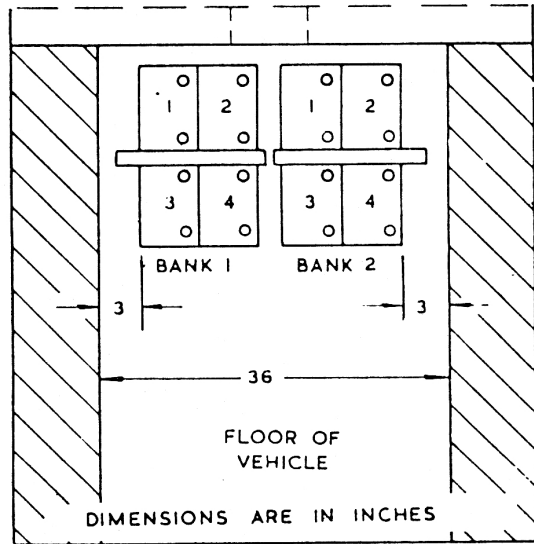

FIG. 1 - BATTERY LAYOUT
- c. Position new carriers (item 2) on baseboards, with the wing nuts towards the sides of the vehicle. Ensure that a space of 1 inch is left between carriers (fig 1).
- e. Secure carriers using item 3.
- f. Position batteries in carriers (fig 1).